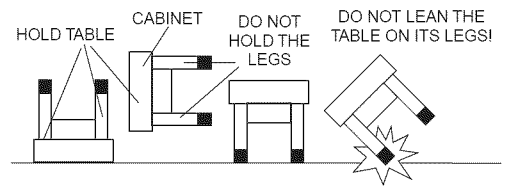

FIG.2 TABLE TENNIS TABLE TOP ASSEMBLY
7. Tear off the backside paper of the Pad (#14) and stick them at the bottom of the Table Tennis Surface (#7 & #8). **See FIG.2.**